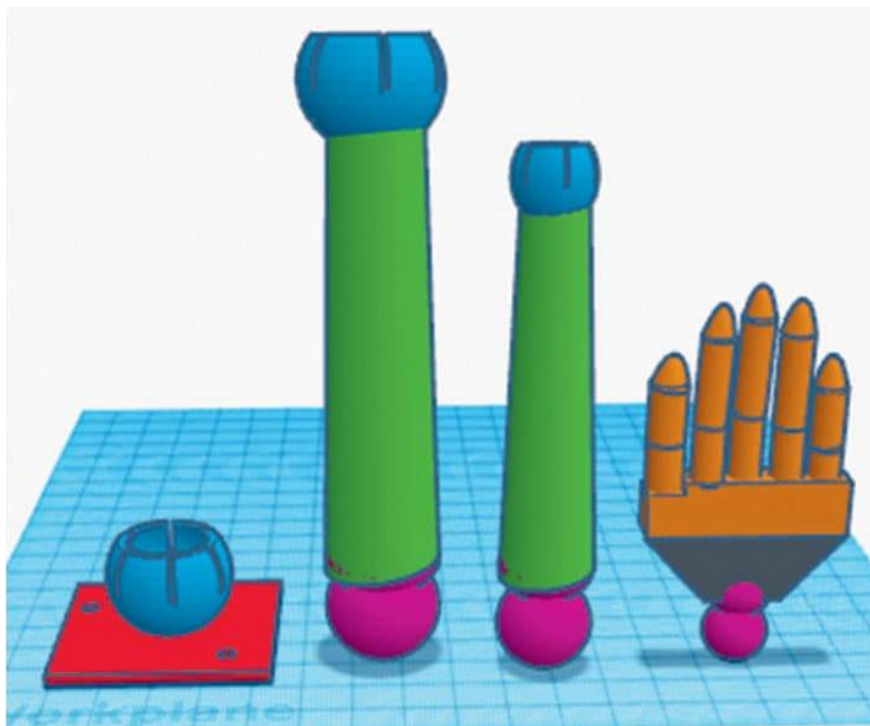

FIG. 5: The positioning of parts for 3D printing.
7. Prior to printing, we will need to reposition some of the parts. The sockets of each joint attach to the part above it, and the ball attaches to the part following it in the sequence of parts of the arm. See fig. 5 for the print layout.